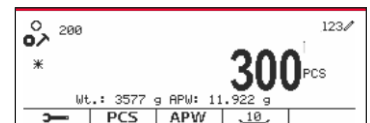

Figure 46
1. Place the sample on the pan and then key in the number of pieces using the alphanumeric keypad. (See Figure 46)